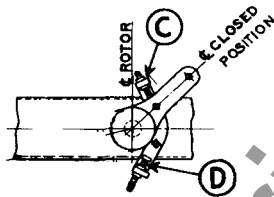

FIG. 2
Switches will now operate freely with moderate effort applied to the operating handle. All blades should operate together to the fully closed position. It may be necessary to slightly adjust one or more "open position" stop bolts (C) Figure 2, to obtain proper open position of blades. Operate several times to check adjustments. Be sure all blades operate to the fully closed position when the handle is locked closed. Finally, drill 5/8" hole for pin and permanently secure the handle to the vertical operating pipe.